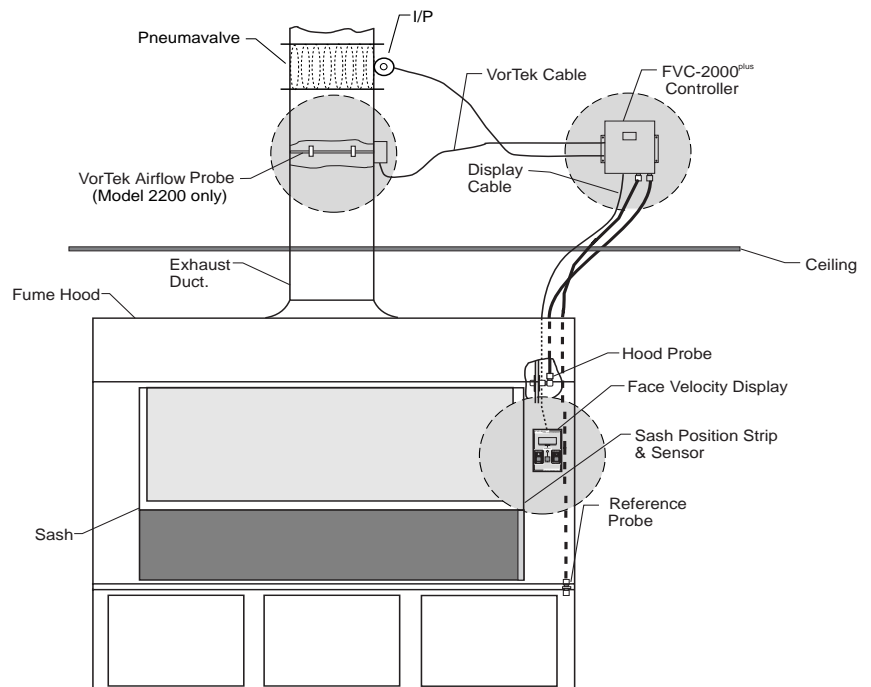

Figure 1, Typical Installation of FVC-2000plus Model 2100 and 2200 with VorTek
1. Select the mounting location for the controller. Make sure there is sufficient space around the enclosure to allow access to connections and to allow opening the door fully. Refer to fig. 1, page 1.